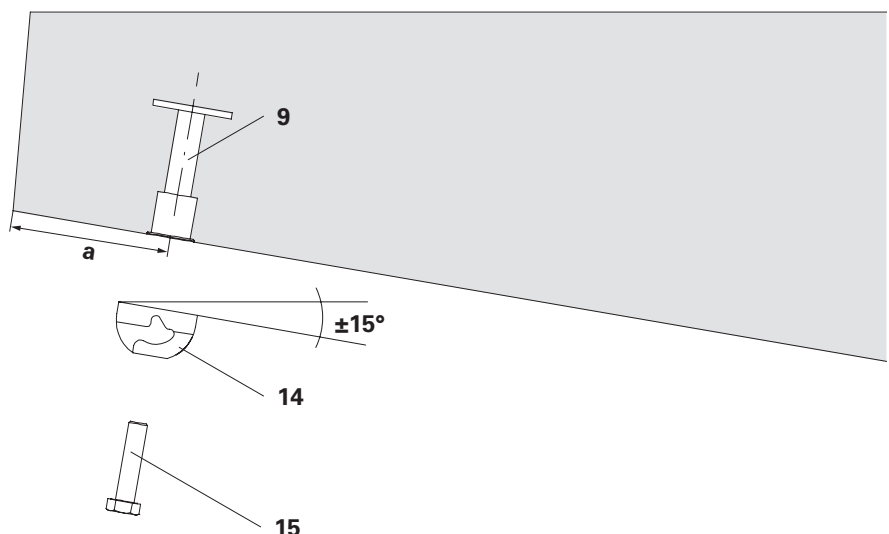

Fig. A4.02
1. Attach Suspension Anchor M24 VARIOKIT (14) to the Anchor Sleeve M24 by means of bolt M24 x 150 (15). (Fig. A4.02)